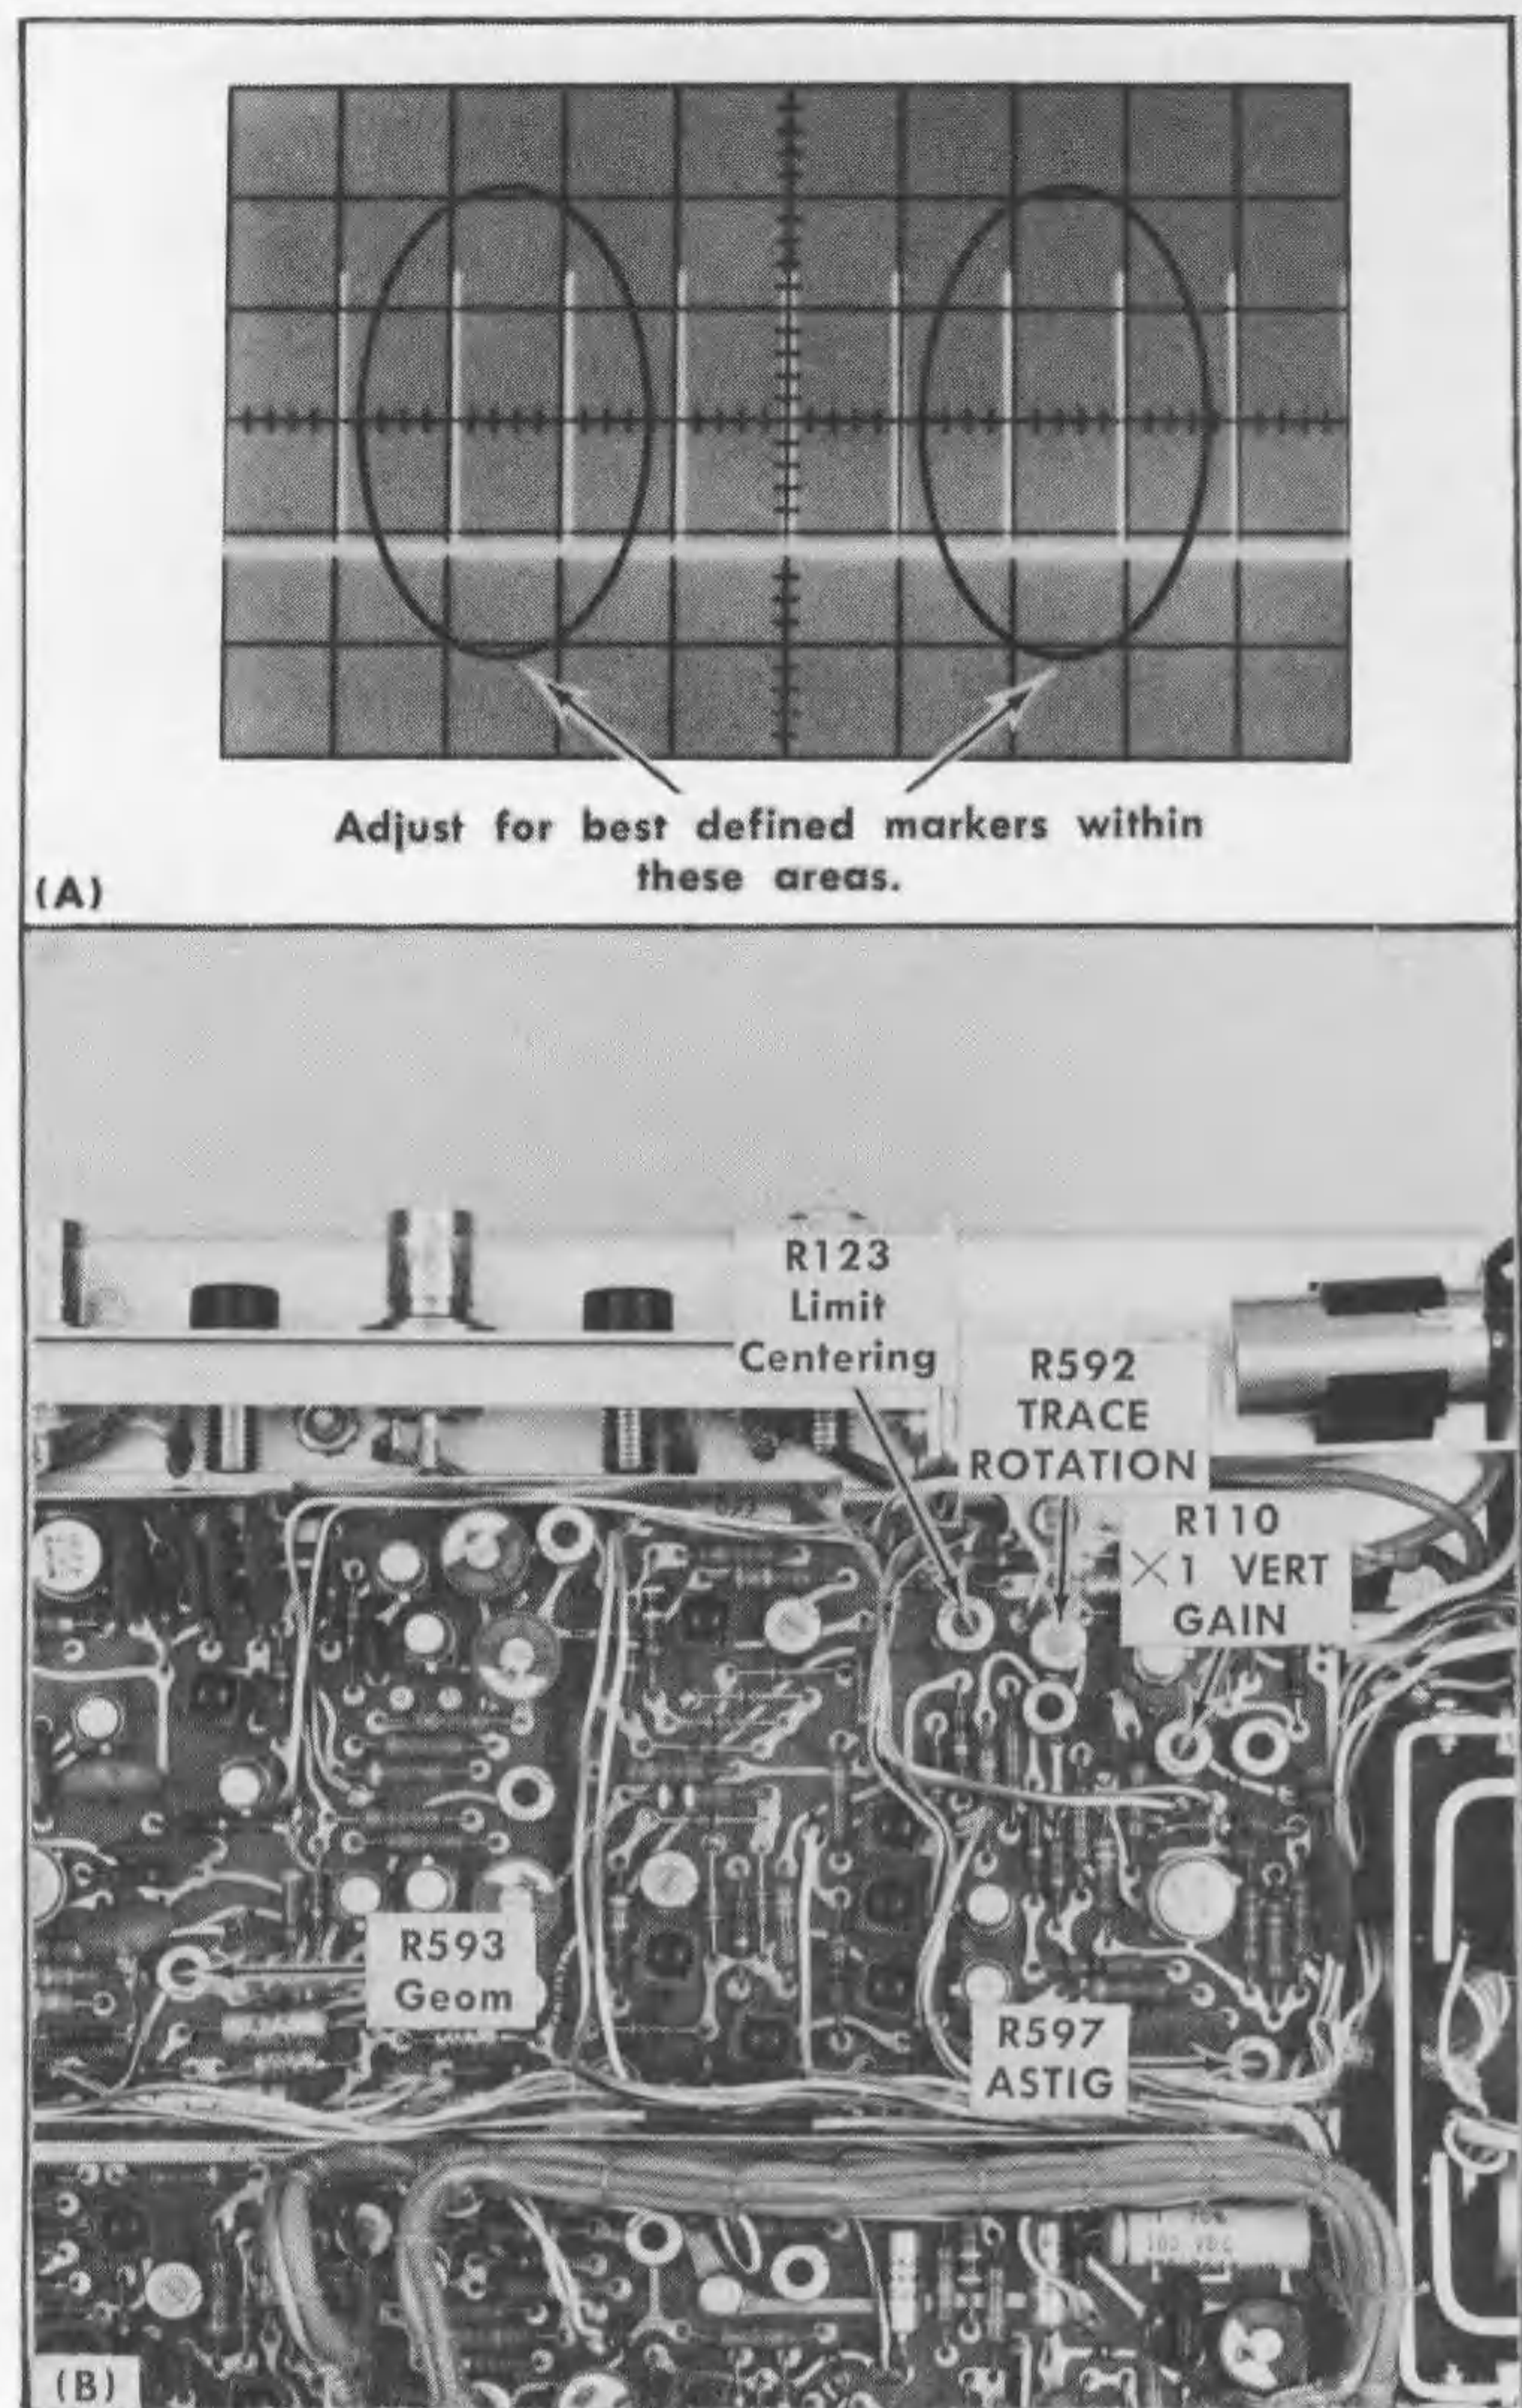

Fig. 5-6. (A) Area of CRT display to check for correct astigmatism adjustment, (B) Location of CRT and vertical adjustments (Vertical board).
j. With the DC voltmeter connected to point N, adjust the Limit Centering adjustment, R123 (see Fig. 5-6), for a meter reading of +50 volts (perform this adjustment only if proceeding to next step).